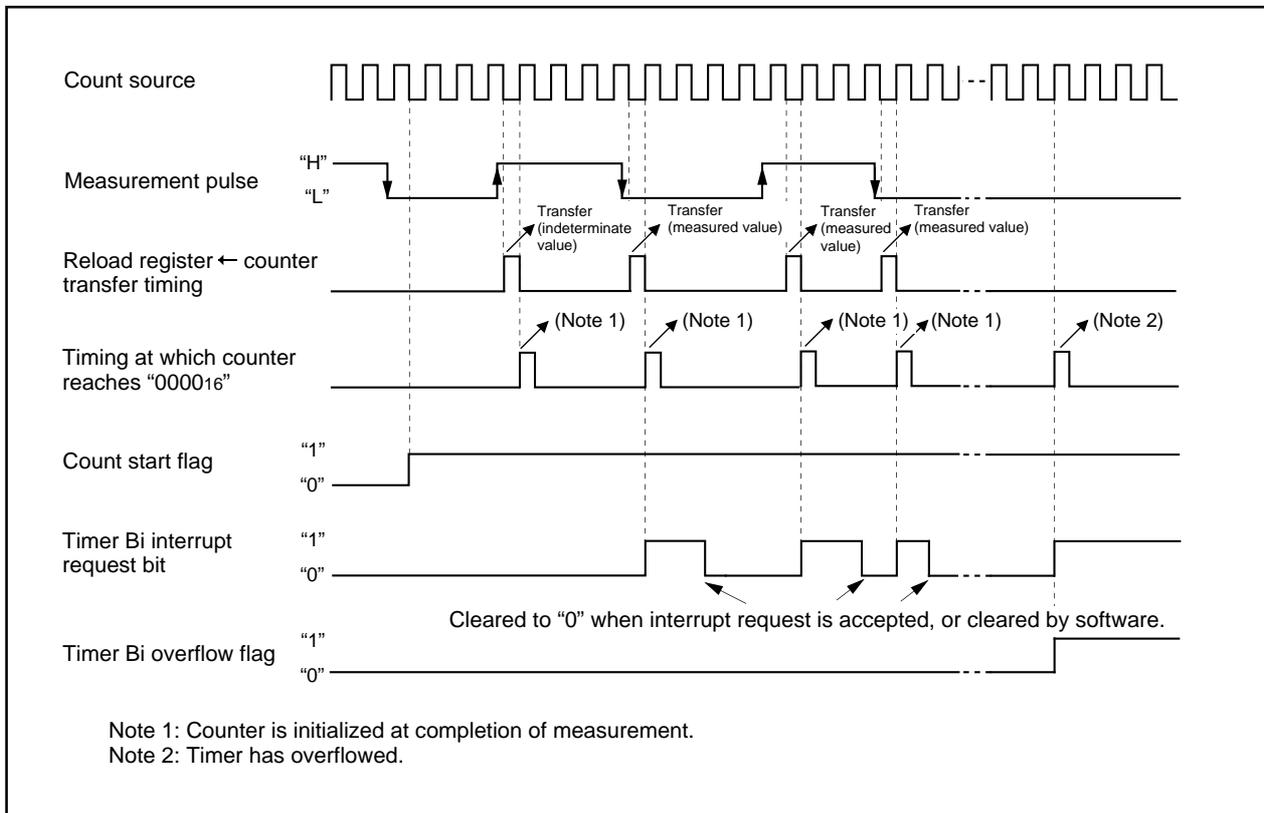

Figure 1.15.9. Operation timing when measuring a pulse width
1.15.8 shows the operation timing when measuring a pulse period. Figure 1.15.9 shows the operation